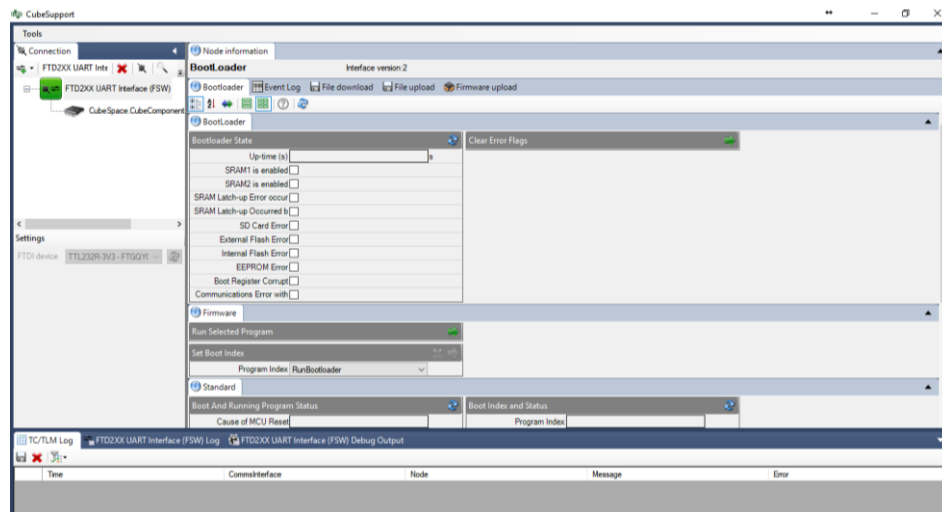

Figure 5 – CubeSupport Bootloader Interface
**Now Power on the CubeADCS and wait 1 second for everything to power on,** connect to the ADCS with CubeSupport within the first five seconds of power on by clicking on the connect button . CubeSupport should catch the bootloader and connect to the ADCS bootloader, the bootloader menu will be displayed as shown in Figure 5.